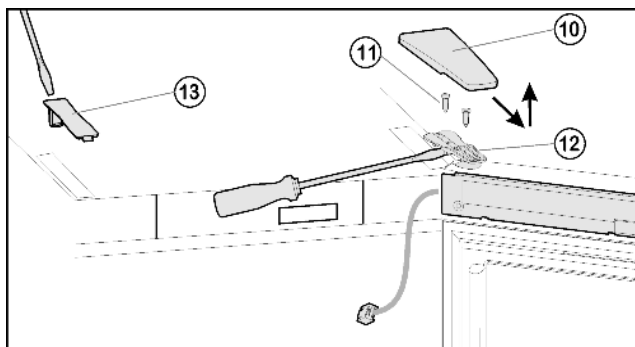
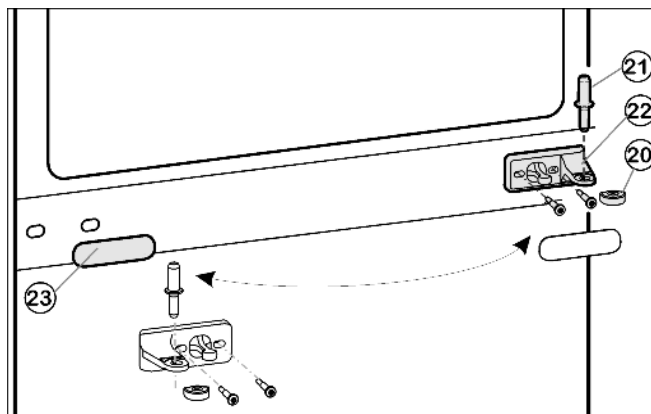
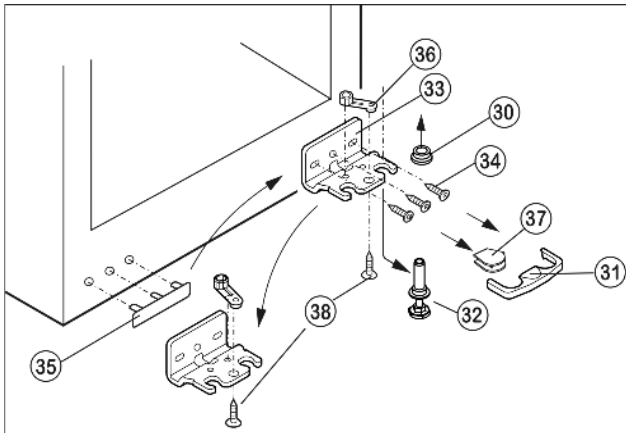

Fig. 5
Fig. 6
Fig. 7
- ▶ Pull off the cover Fig. 5 (10) forwards and upwards.
- ▶ Lift off the cover Fig. 5 (13).
- ▶ Undo the screws Fig. 5 (11) all the way.
- ▶ Lift and remove the door complete with turn hinge Fig. 5 (12) and cable. For release, possibly use a flat-blade screwdriver to apply lever action under the turn hinge.
- ▶ Draw the middle bearing pin Fig. 6 (21) out of the middle turn hinge Fig. 6 (22) and lower door.
- ▶ Remove the plastic cap Fig. 6 (20).
- ▶ Detach the middle turn hinge Fig. 6 (22).
- ▶ Carefully detach the cover panel Fig. 6 (23).
- ▶ Turn the middle turn hinge Fig. 6 (22) through 180° and screw it firmly into place on the new hinge side (**with 4 Nm**).
- ▶ Turn the cover panel Fig. 6 (23) through 180° and snap it into place again on the new handle side.
- ▶ Draw the safety lock Fig. 7 (31) forwards for removal.
- ▶ Remove the cover Fig. 7 (37).\*
- ▶ Fully retract the adjustable-height foot Fig. 7 (32).
- ▶ Pull out the bearing pin Fig. 7 (32) downwards and forwards. In so doing, pay attention to the hinge bush Fig. 7 (30).
- ▶ Unscrew the turn hinge Fig. 7 (33) (3 Torx 25) Fig. 7 (34).
- ▶ Unscrew the bearing part Fig. 7 (36) (1 Torx 25), Fig. 7 (38), transfer it to the opposite hole in the turn hinge and screw it down again.
- ▶ Carefully lift off and transfer the cover Fig. 7 (35) on the handle side.
- ▶ Screw the turn hinge Fig. 7 (33) firmly into place on the new hinge side, possibly using a cordless screwdriver (with 4 Nm).
- ▶ Place the cover Fig. 7 (37) on the opposite side.\*
- ▶ The safety lock (31) has to engage with the turn hinge at the side so that the bearing pin and therefore the door are secured.
- ▶ Snap the safety lock (31) onto the turn hinge again.
- ▶ Put on the hinge bush Fig. 7 (30).
- ▶ Place the door from above onto the lower bearing pin Fig. 7 (32).
- ▶ Place the plastic cap Fig. 6 (20) back onto the middle turn hinge Fig. 6 (22).
- ▶ Insert middle bearing pin Fig. 6 (21) through middle turn hinge Fig. 6 (22) into the lower door.
- Place the upper door on the middle bearing pin Fig. 6 (21), close the door and attach the upper turn hinge Fig. 5 (12) so that it engages with the upper side of the appliance.
- Screw the turn hinge Fig. 5 (12) firmly into place (with 4 Nm). Possibly make preliminary holes with a bradawl or use a cordless screwdriver.
- Snap on the cover Fig. 5 (10) and cover Fig. 5 (13).
- If necessary, align the door to the appliance housing by way of the two oblong holes in the lower turn hinge Fig. 7 (33) and middle turn hinge Fig. 6 (22). To do so, unscrew the middle screw in the lower turn hinge Fig. 7 (33).